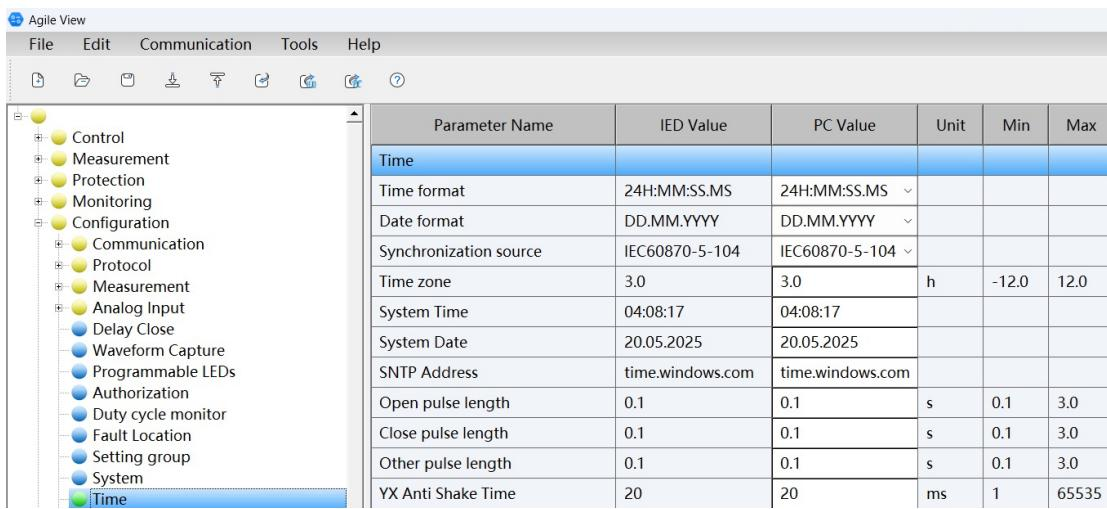

Figure 45 Date and time settings on configuration tool
4. Click the ‘Time’ and parameter settings window will popup where it is possible to edit. (Figure 45)